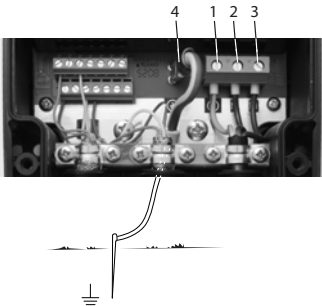

Fig. 4 Electrical connection and earthing
If the supply cable to the interface has no earth conductor, a separate earth connection must be connected to the internal earth terminal. See fig. 4, pos. 4.
- 2. Connect the supply cable to the interface (fig. 4, pos. 1, 2 and 3).
- 3. If the supply cable has no earth conductor, connect an external earth connection (pos. 4, fig. 4). Loosen the earth clamp before connecting the supply cable/earth conductor.